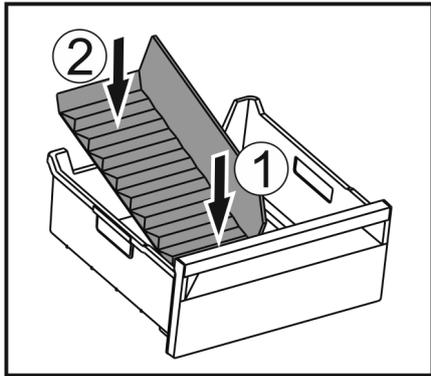

Fig. 174
- ▶ Insert the front part of the ice compartment divider. Fig. 174 (1)
- ▶ Lower the rear part of the ice compartment divider to the drawer bottom. Fig. 174 (2)